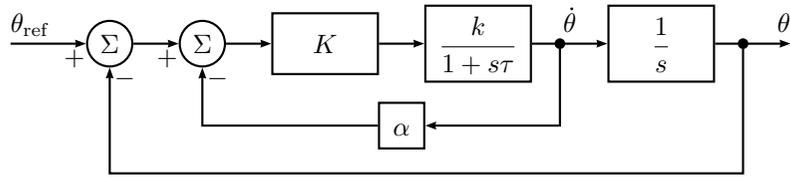

Figure 3.7a
3.7 Consider the servo system in Figure 3.7a with a DC-motor. Suppose that the angular velocity can be measured with a tachometer and let the control law be as in the block diagram. Let $\tau = 0.5$ and $k = 2$.